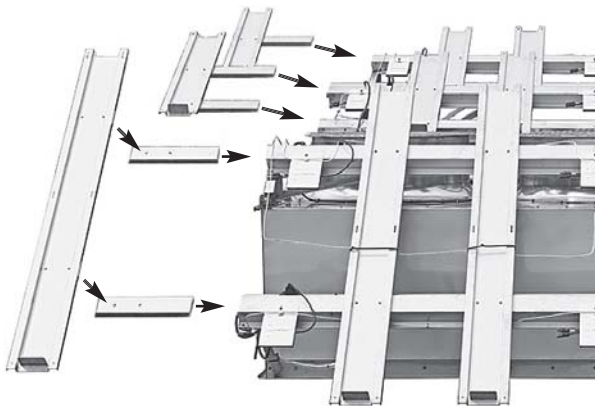

Figure 5 – Assembling Solar Panel Mounting Bracket
1. Install the extension brackets to the factory mounted solar panel brackets as shown in Figure 5.